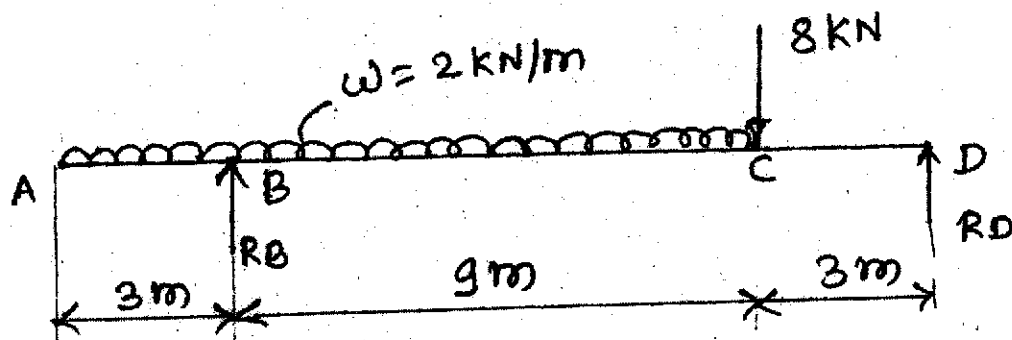

Fig. 4
3. (a) The overhanging beam is loaded as shown in Fig. 4. Draw shear force and bending moment diagram. Indicate all important points on diagram and find point of contraflexure if any. [8]